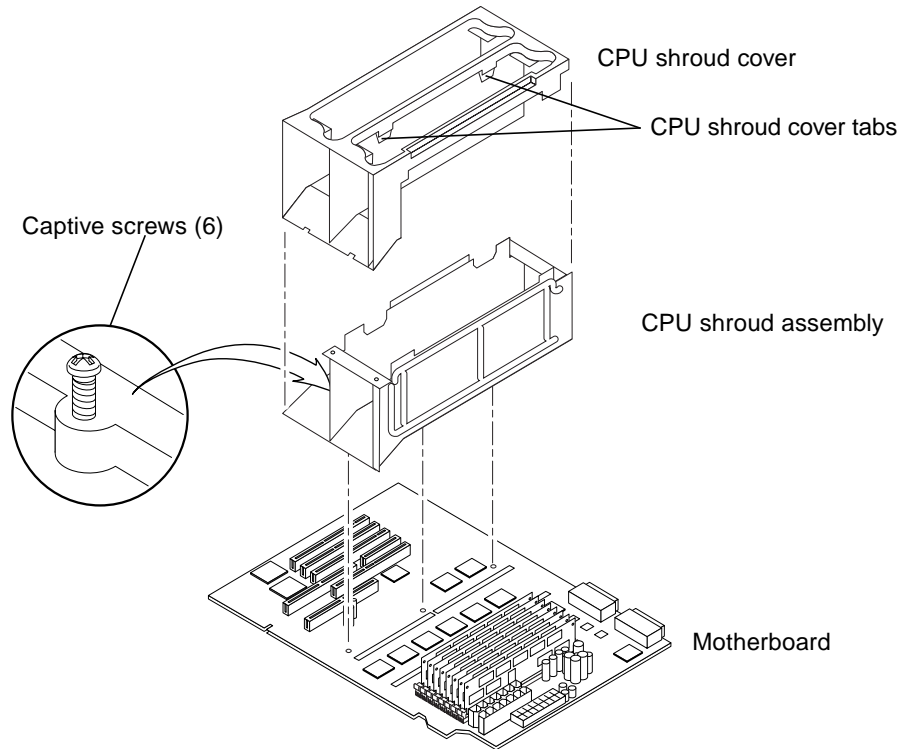

FIGURE 8-7 Removing and Replacing the CPU Shroud Assembly
3. **Remove the CPU shroud cover (FIGURE 8-7).**
6. **Lift the CPU shroud assembly from the motherboard (FIGURE 8-7).**
1. **Position and properly align the CPU shroud assembly on the motherboard (FIGURE 8-7).**
4. **Replace the CPU shroud cover (FIGURE 8-7).**